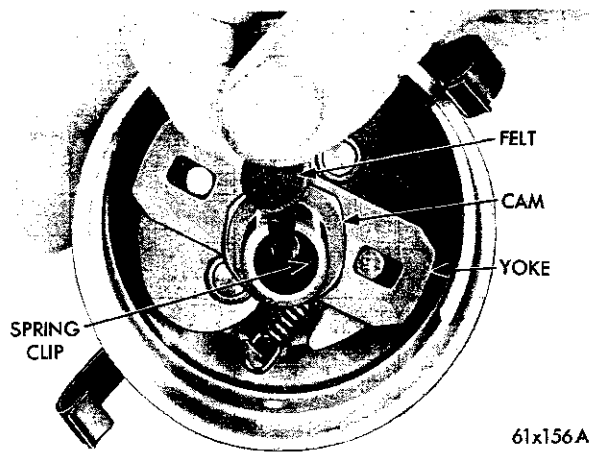

Fig. 83—Removing the Distributor Cam Felt Wick
(2) Remove the retainer attaching the vacuum advance unit to the breaker plate advance arm.
(3) Remove the two screws and lockwashers attaching the vacuum advance unit to the distributor housing and remove the unit.
(4) Remove the primary lead wire and rubber grommet as an assembly. Push the grommet towards the inside of distributor to remove. Do not pull the wire.
(5) Remove the two screws and lockwashers attaching the breaker plate to the housing and lift out the breaker plate, points and condenser as an assembly.
(6) Remove the oil wick from the distributor cam (Fig. 83). Remove the spring clip from the oil well in the cam and remove the cam and yoke assembly and spacer.